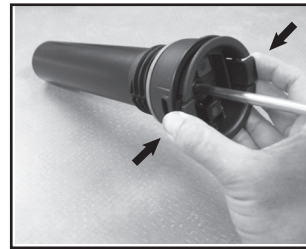

Figure 7
2. To remove pump cap from pump barrel, squeeze the tabs on the cap and pull away from barrel. **(See Figure 7)**